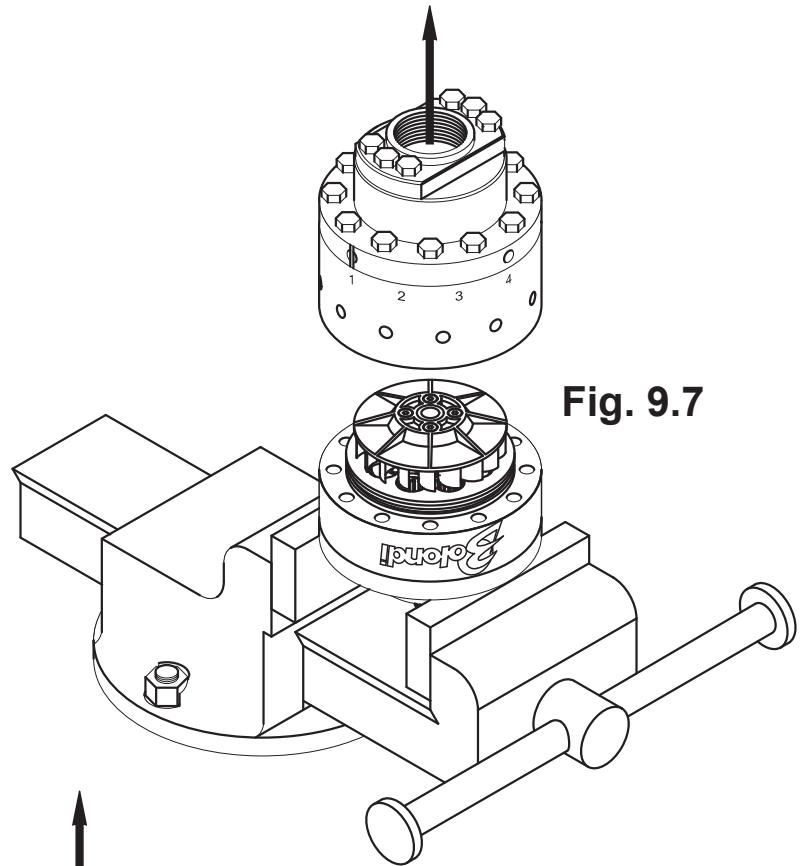

Fig. 9.7
9.3.5) Position the head as in fig.9.7 and dismantle the inlet unit.